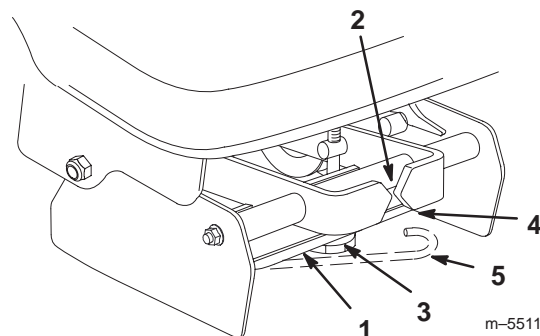

Figure 10
2. Release the belt tension release arm on the pulley box housing and swing it out toward you (Fig. 10).
6. Loop the other end of the belt over the drive pulley of the mower. Additional belt slack can be obtained (if needed) by turning the belt tension adjustment knob (Fig. 10).
- B. Check the tension indicators on front of the pulley box. The two arrow points on the indicators should line up (Fig. 10).
- C. If the tension indicators do not line up, release the belt tension, turn the adjustment knob and repeat steps A through C until the indicators line up (Fig. 10).
When finished, swing the tension release arm into the pulley box and seat it by moving it into the position shown in Figure 10.